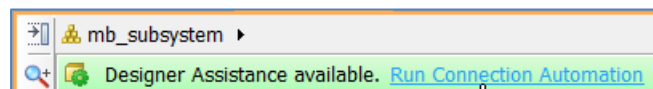

Figure 97: Run Connection Automation
1. Click **Run Connection Automation** as shown in Figure 97.